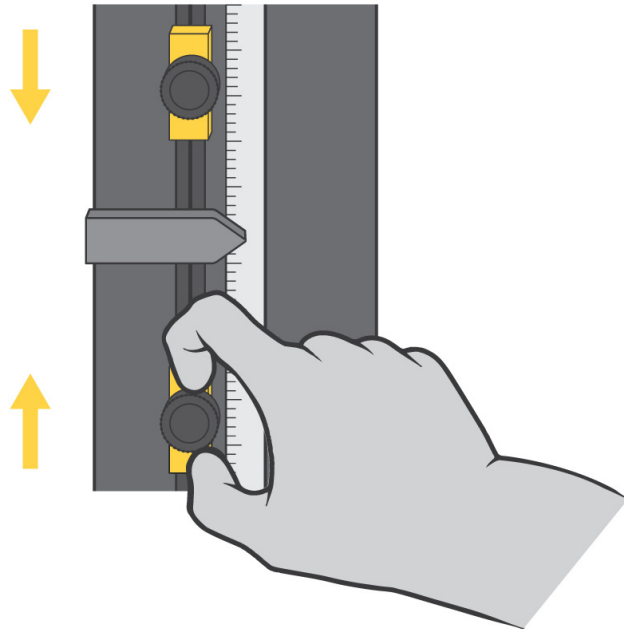

Figure 17. Setting Limit Stops
The crosshead limit stops are two adjustable blocks mounted on the limit switch rod, which is located inside the column of the machine, as shown in Figure 17 on page 92. Limit stops (1 and 2) have thumbscrews that you tighten and release by hand, and you can move them to any position on the limit rod. Position these stops just beyond the test parameters to prevent crosshead over-travel. When the crosshead reaches the maximum pre-set travel, the limit switch actuator (3) contacts one of these stops. Contact between the limit actuator and the limit stop moves the limit switch rod (4) and activates the limit switches. This stops crosshead motion.